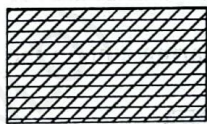

Figure 16
25. Considering the hatched lines in figure 16 below and select the material used